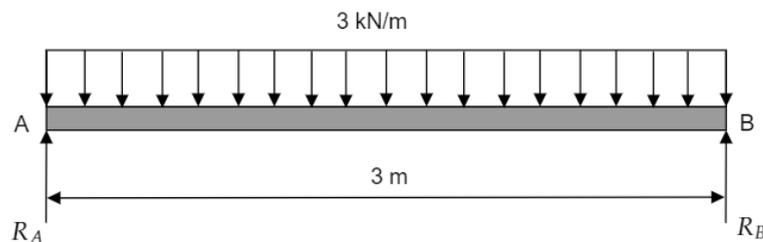

Figure Q6b: Simply supported beam with UDL.
b) A hollow rectangular beam is used to support an industrial motor in machining plant. The beam is simply supported, and the weight acting on the beam can be modelled as a uniformly distributed load as shown in **Figure Q6b**. For this beam: